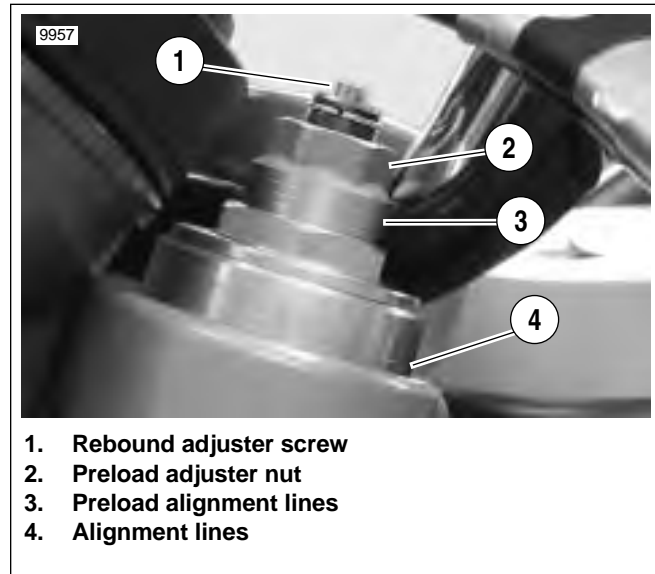

Figure 2-77. Front Fork Preload And Rebound Adjuster
4. See Figure 2-77. Position fork with alignment lines (4) visible and reflector facing to the side and tighten the lower fork clamp.